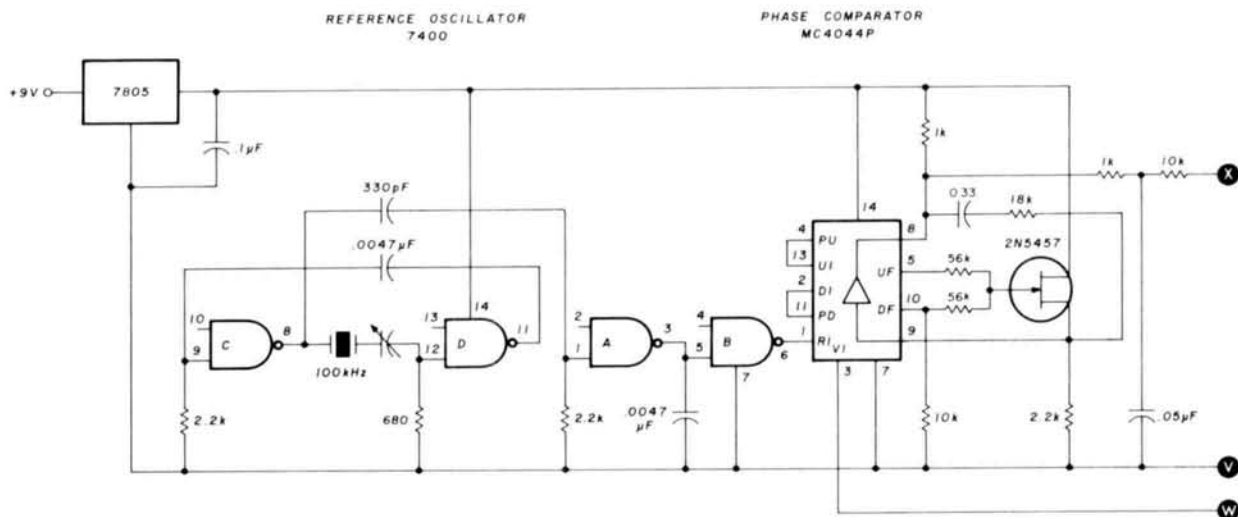

fig. 4. Reference oscillator and phase-comparator schematic.
**Fig. 4** is the schematic for the reference oscillator and phase comparator. A 7400 quad NAND gate is used with a 100-kHz crystal to generate the reference frequency. There's no special merit to this scheme other than simplicity, and any convenient oscillator circuit could be used so long as it provides TTL output levels. In the circuit shown, the 0.0047  $\mu\text{F}$  capacitor at the input to the last gate was necessary to eliminate a double-pulsed output to the phase comparator.